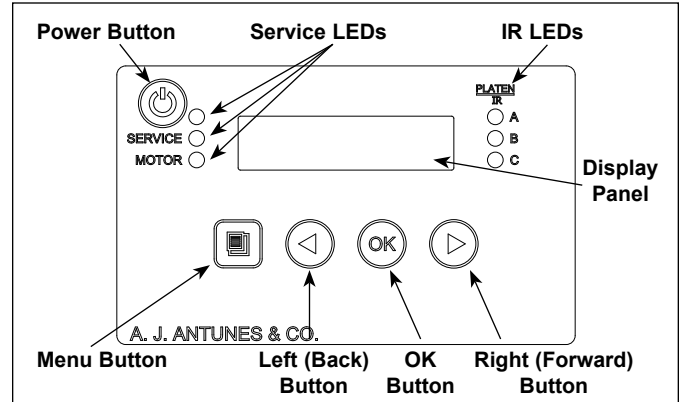

Figure 3. HRT-5H Control Panel
2. See Figure 3. Press and hold the **MENU** button for five seconds.